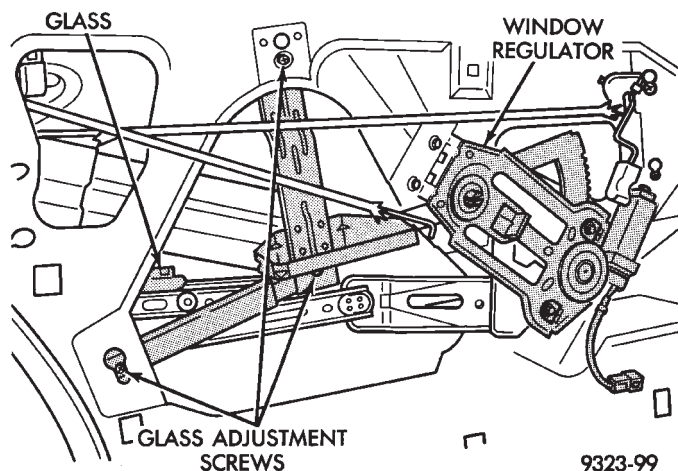

Fig. 43 Rear Door Glass Alignment
- (1) Remove door trim panel.
- (2) Loosen screw holding scissor channel to door panel at rear of access hole (Fig. 43).
- (3) Loosen bolt holding support brace to door panel above access hole.
- (4) Loosen nut holding scissor channel to support brace.
- (5) Position glass in run weatherstrips to achieve smooth operation and proper fit.
- (6) Secure all fasteners and install trim panel.